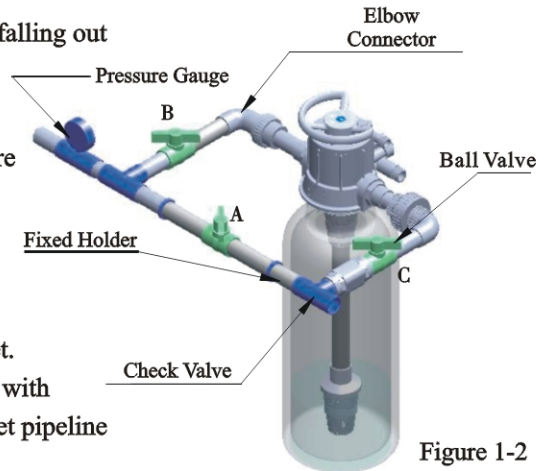

Figure 1-2
- a. As the Figure 1-2 shows, a pressure gauge should be installed on the inlet pipe.